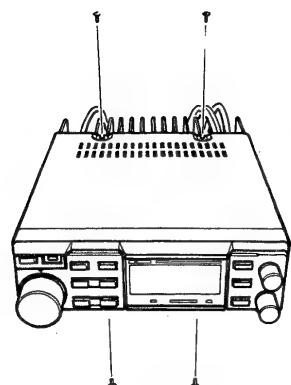

Fig. 1
- 1) Unscrew the four cover screws on the top and bottom covers and remove the top and bottom covers. See Fig. 1.